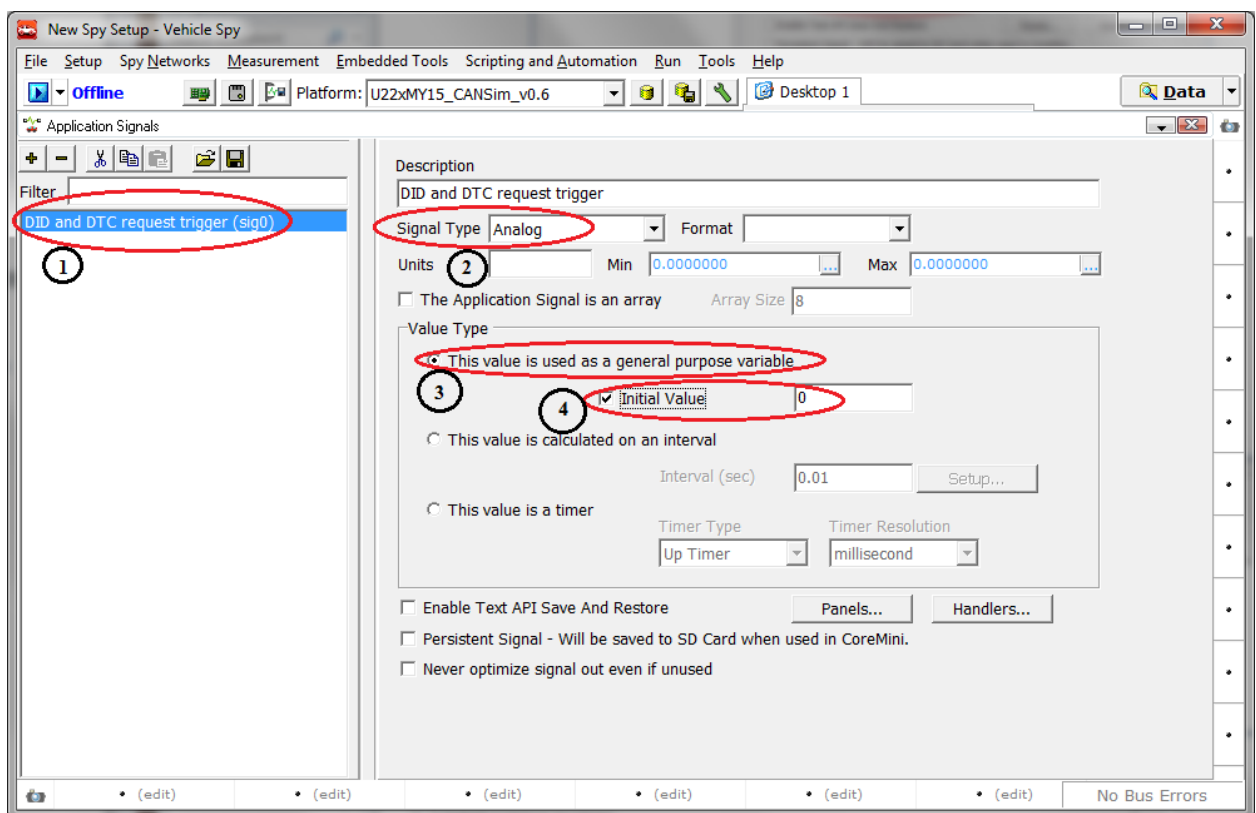

Figure 11: Application signal for the trigger.
- Click on ‘+’ button (Figure 11(1)). It will create new application signal.